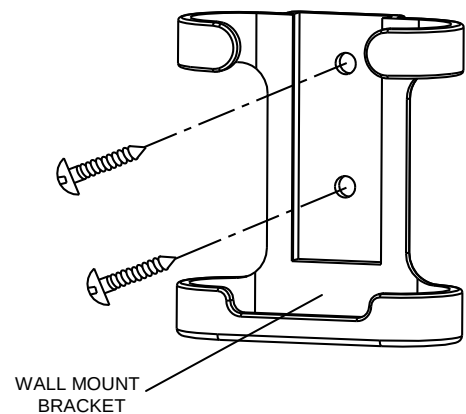

FIG 5
2. Use two screws (included) and wall anchors to install wall mount bracket as shown in FIG. 5.